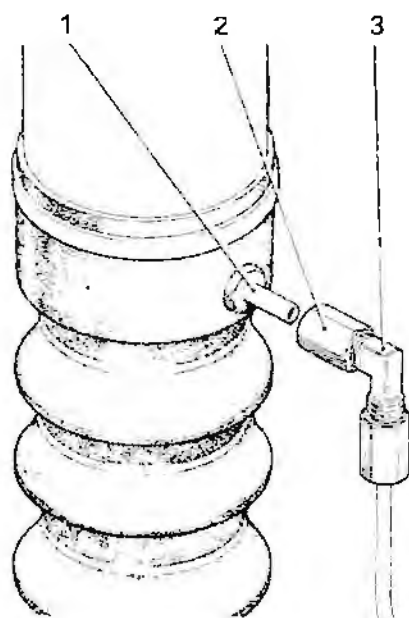

Fig. 1.
1. Hold the 90° elbow with a suitable spanner (see fig. 1, item 3).
2. While holding the elbow, unscrew the nut (see fig. 1, item 2) which secures the elbow (item 3) to the low pressure adapter (item 1).